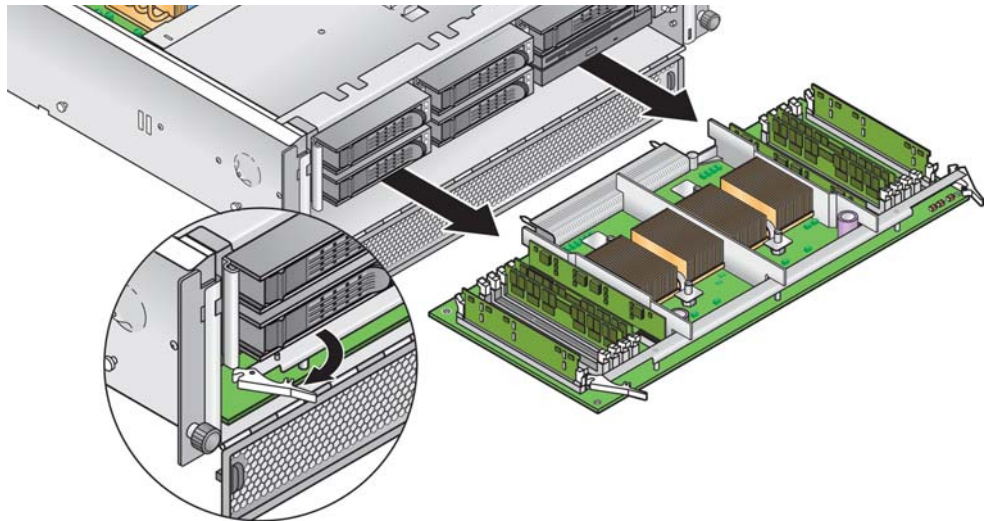

FIGURE 5-15 Removing the CPU Card From the Chassis
5. Open the two plastic levers on the CPU card corners *simultaneously* to release it from its backplane, then carefully pull it out of the server (see FIGURE 5-15).